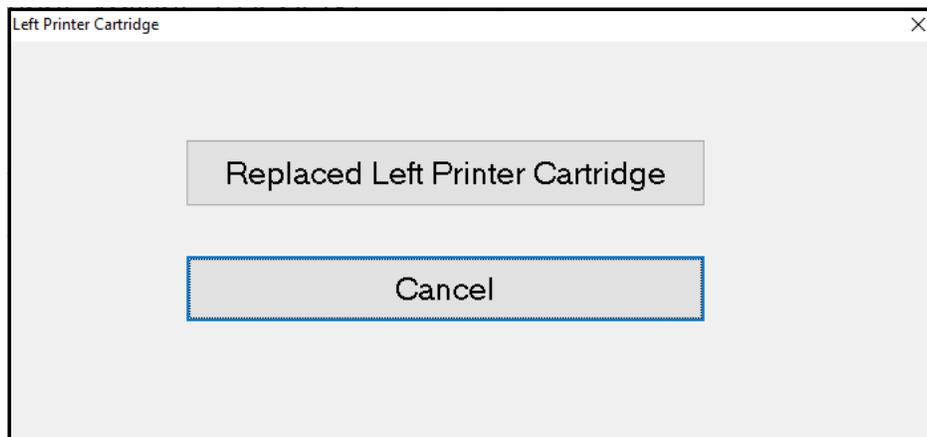

Figure 6-13: Replacement confirmation
5. Press the **Replaced Right/Left Printer Cartridge** button on the screen (Figure 6-13).